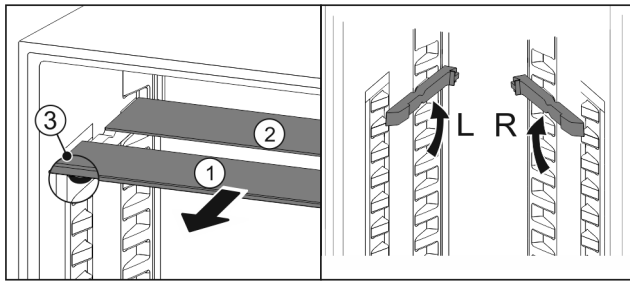

Fig. 70
- ▶ Pull the glass panels out Fig. 70 (1) from the front, one at a time.
- ▶ The glass panel Fig. 70 (1) and trim strip are at the front.
- ▶ The stops Fig. 70 (3) point down.